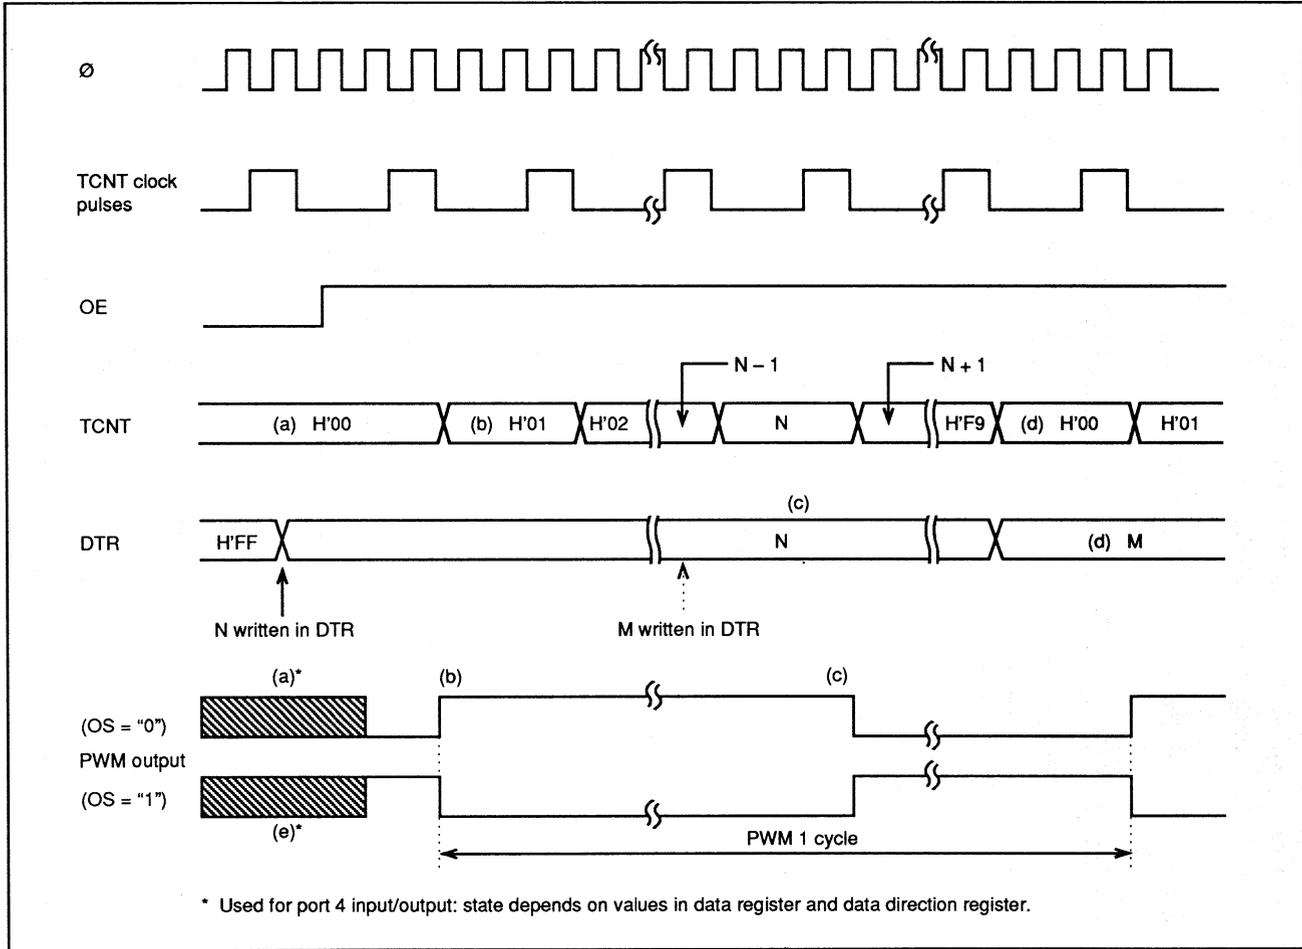

Figure 8-3. PWM Timing
Figure 8-3 is a timing chart of the PWM operation.
(1) Positive Logic (OS = “0”)
① **When (OE = “0”) – (a) in Figure 8-3:** The timer count is held at H'00 and PWM output is inhibited. (Pin 46 (for PW0) or pin 47 (for PW1) is used for port 4 input/output, and its state depends on the corresponding port 4 data register and data direction register.) Any value (such as N in Figure 8-3) written in the DTR becomes valid immediately.
② When (OE = “1”)
- i) The timer counter begins incrementing. The PWM output goes High when TCNT changes from H'00 to H'01, unless DTR = H'00. [(b) in Figure 8-3]
- ii) When the count passes the DTR value, the PWM output goes Low. [(c) in Figure 8-3]
- iii) If the DTR value is changed (by writing the data “M” in Figure 8-3), the new value becomes valid after the timer count changes from H'F9 to H'00. [(d) in Figure 8-3]
(2) Negative Logic (OS = “1”) – (e) in Figure 8-3: The operation is the same except that High and Low are reversed in the PWM output. [(e) in Figure 8-3]